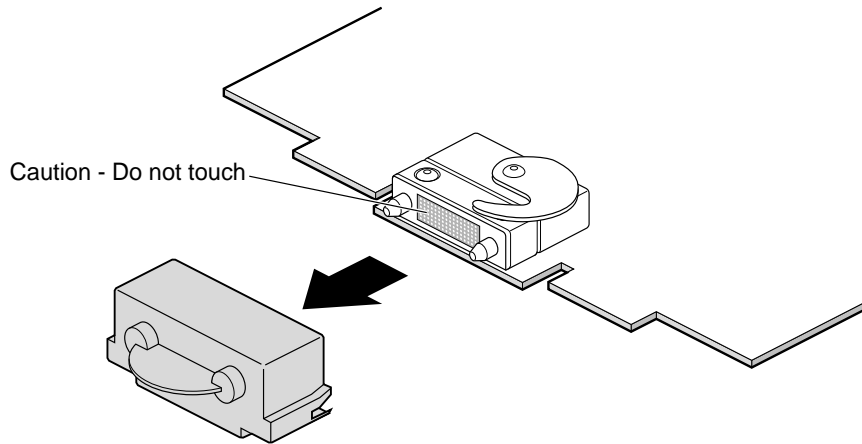

Figure 24 Removing the Cap from the Option Board Compression Connector
3. Remove the caps from the XIO compression connectors (see Figure 24).